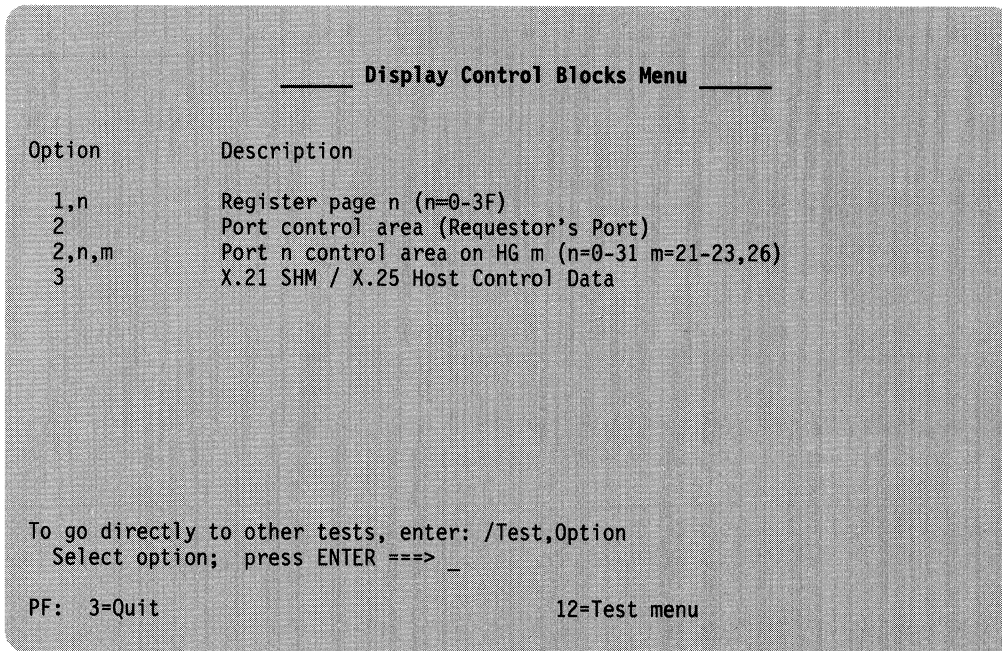

Figure 3-18. Test 6: Display Control Blocks Menu Panel
4. Select the desired option from the panel shown in Figure 3-18.